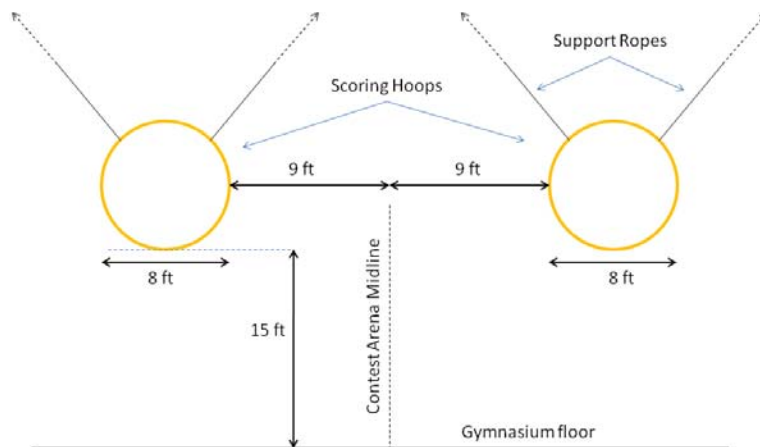

Figure 3: Schematic diagram of the elevated scoring hoops (not drawn to scale)..
3.5 Elevated Scoring Hoops. Twenty (20) feet from the eastern edge of the ball dispensers, a pair of hoops, 8 feet in diameter, will be hanging from the ceiling so that the bottom of each hoop will be located 15 feet above the gym floor (see Figure 3). The southern (northern) team can score points by passing one of their team’s vehicles through the southern (northern) hoop.
9.2 Elevated Scoring Hoops. The configuration of the elevated scoring hoops is shown in Figure 3. Note that the hoops will be supported by ropes attached to the ceiling of the Brown Gym. These ropes serve as a natural obstacle in the arena, and must be taken into account.